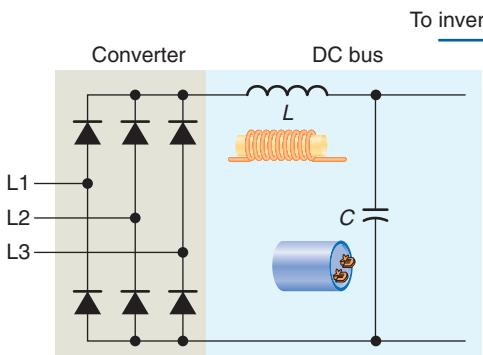

Figure 10-4 Inductor and capacitor connections within the DC bus.
After full-wave rectification of an AC supply into a VFD, the DC output passes through a DC bus. Figure 10-4 shows the inductor (L) and capacitor (C) connections within the DC bus.